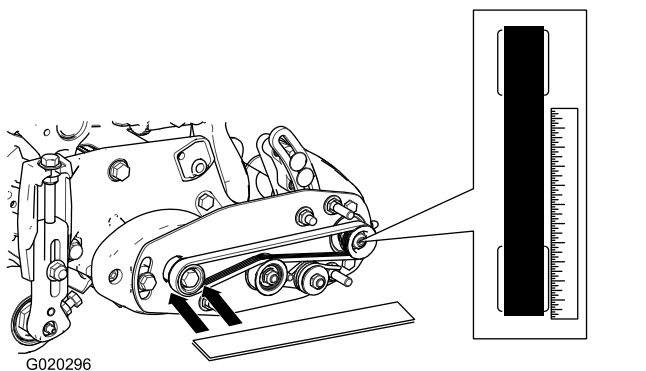
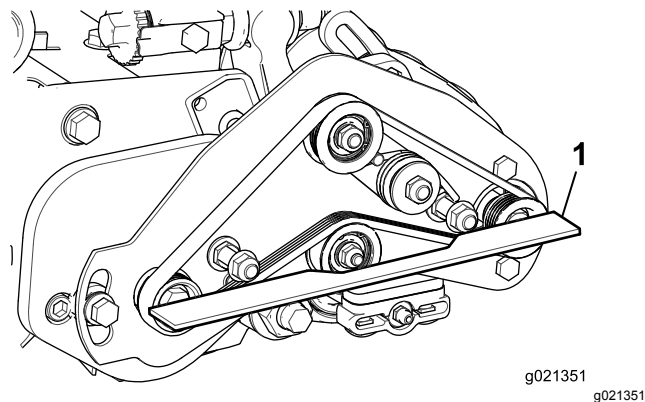

Figure 24
Figure 25
- Lay a straight edge along the outer face of the **drive** pulley (Figure 24 and Figure 25). **Do not** lay the straight edge across both the drive and driven pulleys.